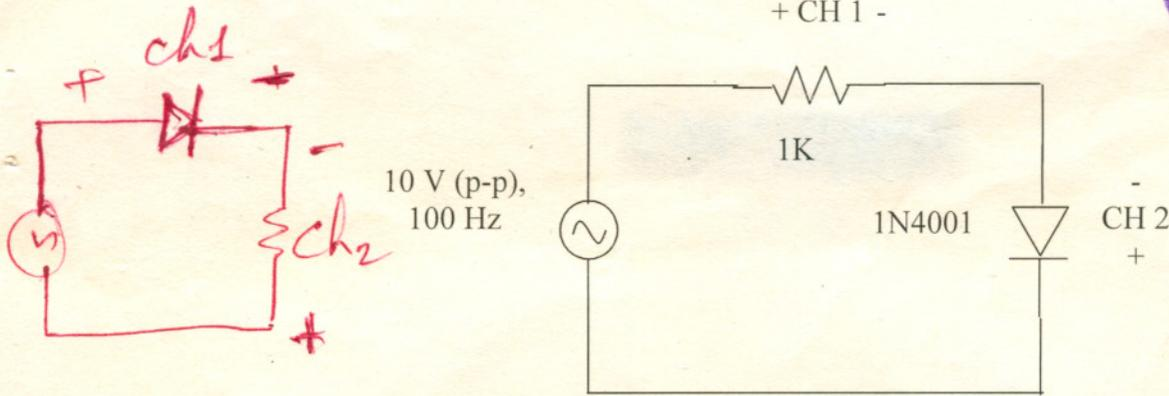

Fig. 1.1 Circuit diagram for obtaining diode characteristic from oscilloscope
1. Construct the circuit as shown in the Fig. 1.1 on breadboard. Set the oscilloscope in **X-Y mode** and locate the zero point on oscilloscope display. Observe and draw the output.